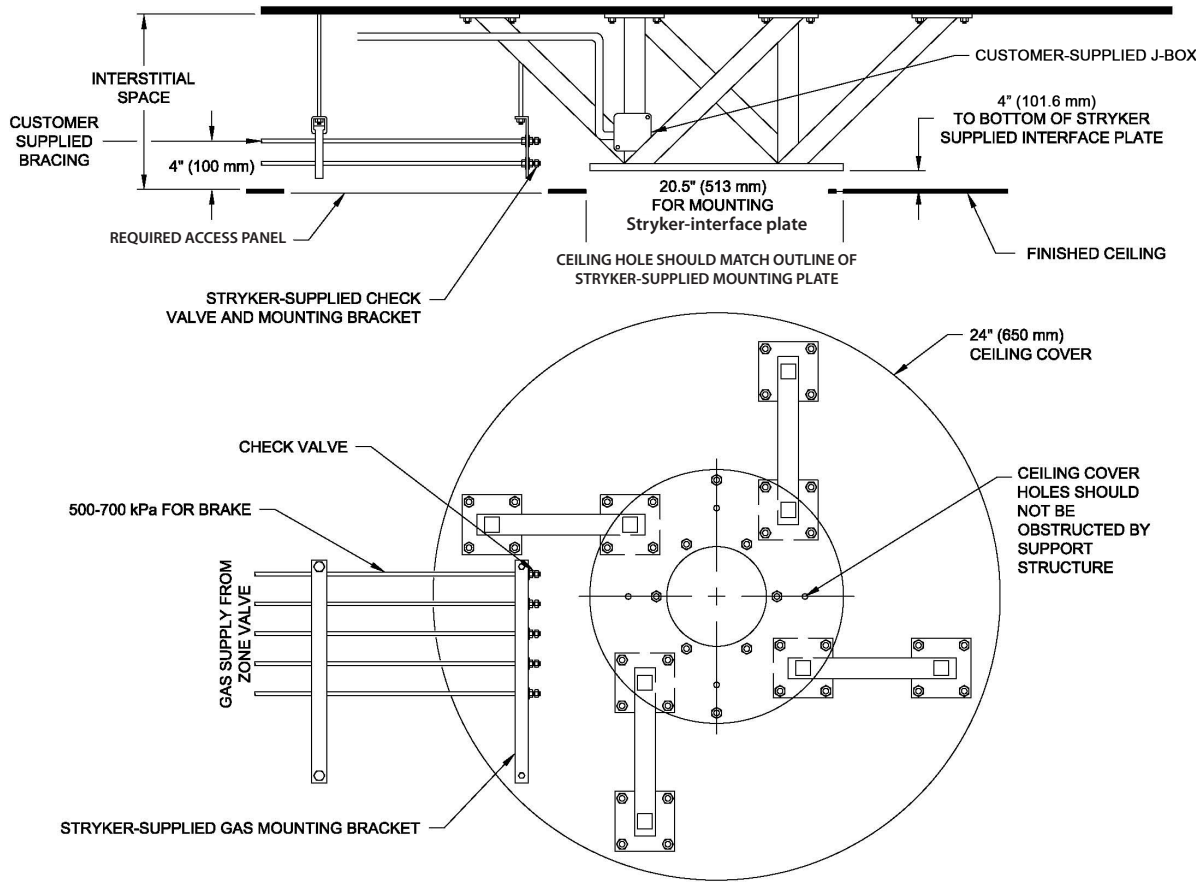
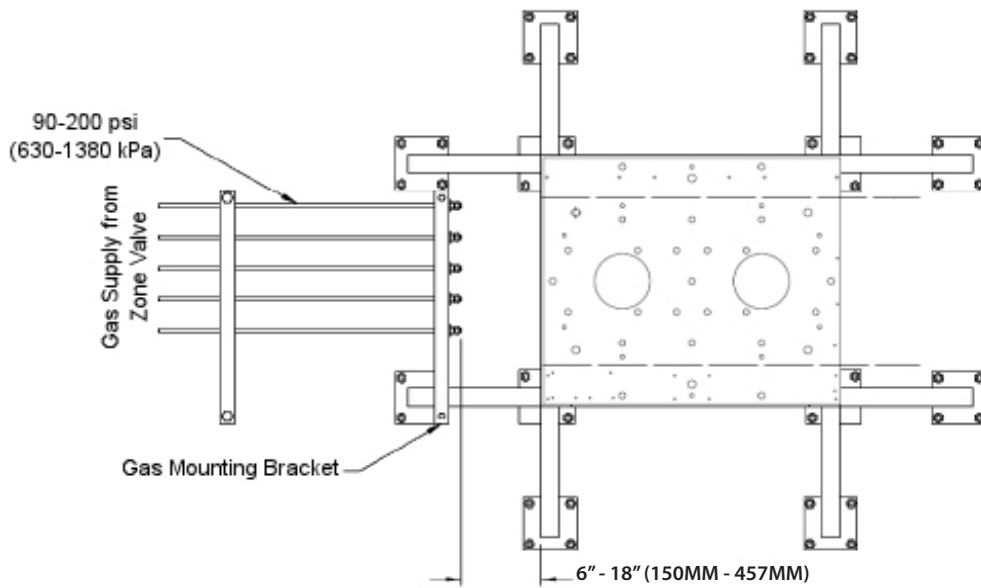

Figure 6.1 - Side view (top) and bottom view (bottom)
Figure 6.2 - Bottom view of a tandem boom site.
- A hole matching the Stryker-supplied mounting plate is required to provide easy access to risers and electrical junction boxes during installation of boom assembly. The hole size should match the outline of the plate, round for single mounts (Figure 6.1) and square for tandem mounts (Figure 6.2), and should be aligned with the center of the Mounting (Interface) Plate. This hole will be concealed by a Stryker-supplied cover; therefore, it is important not to exceed the specified hole size. Make certain no objects interfere with this space.
Note The support structure must be designed and installed in such a way that does not allow obstruction of or interference with the six 5/8-11 UNC (M16) tapped holes located adjacent to the inner diameter of the Mounting (Interface) Plate as well as the 6.09" (155mm) diameter center hole and the 4 each (M4) ceiling cover holes (see Figure 6.1).
The support structure must be designed and fabricated to adequately support the loads specified for each application and to conform to all applicable regulations. Figure 6.1 is only an example of how all of the required components tie in with the hospital-supplied structure. The structure can vary significantly based on load, interstitial space, obstructions, local building codes, etc.